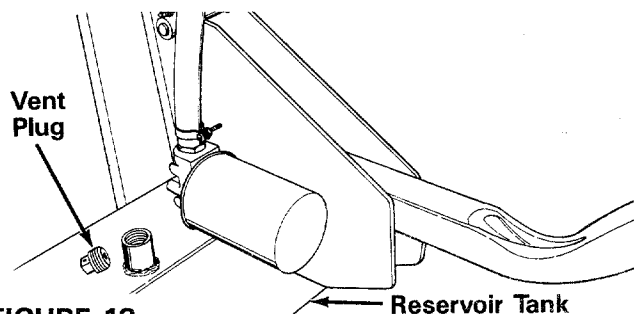

FIGURE 13
- a. Remove reservoir vent plug. See figure 13. Using 10 Weight AW type fluid or Dexron II automatic transmission fluid, fill reservoir to the top. Replace vent plug securely.